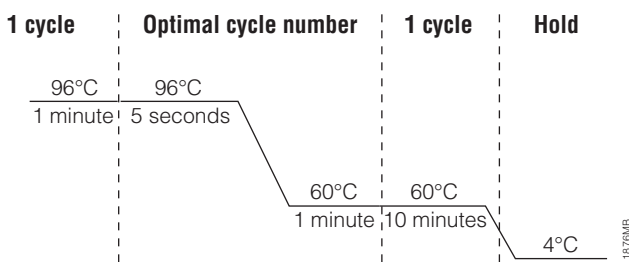

Figure 4. Thermal cycling protocol for the GeneAmp® PCR System 9700, Veriti® 96-Well Thermal Cycler and ProFlex™ PCR System.
2. Select and run the recommended protocol, which is provided below and in Figure 4. The total cycling time is approximately 1 hour.